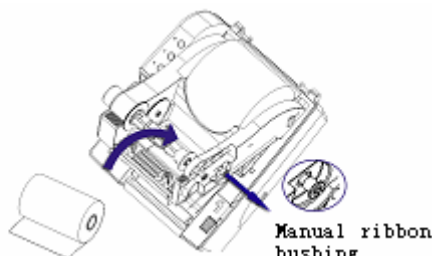

Figure 2.5.2
- 2) Lift up the ribbon holder at about 30°(When a slight sound “pa” is prompted, the ribbon holder shall keep this position); Pull the manual bushing out slightly until the ribbon output shaft is at the original position, then release the manual bushing. The mount of ribbon output shaft is finished. (See figure 2.5.2)